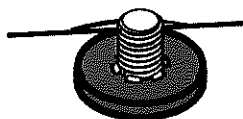

Figure 37
2. Carefully place the flat washer on the spindle shaft. Be sure that the splines at the base of the spindle shaft threads line up with the washer splines. See Figure 37.